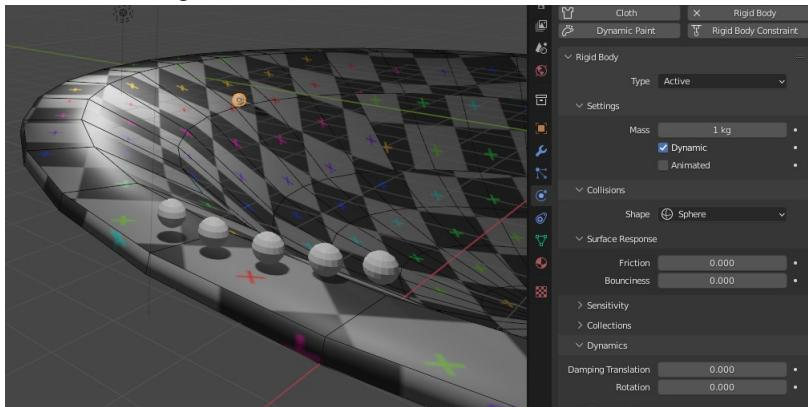

Figure 11-6 Simulating Balls and a Bowl
1. Start off by making a bowl from a sphere by inverting the top half of it. Start a new scene, delete the start cube then add a new sphere object. Scale the sphere 10 times then scale it down in the Z direction by a factor of 0.5. In Edit mode use orthographic and X-Ray view to select the vertices above half way, scale them down slightly then invert the curve by scaling them in the Z direction by a factor of -1.0. Move the selected vertices down and adjust and scale them, then by selecting edge rings at the top expand and flatten the lip so create a bowl as shown in Figure 11-6.
9. To create the bugs, duplicate the ball and change its mass to **0.1** then duplicate the lighter ball four more times. Position these five balls on the flat edge of the bowl so they are just above the surface and separated by about one diameter. The idea is that the bugs will slowly fall into the bowl and the heavier ball will be fired horizontally so it hits them. You can see the locations in Figure 11-6. Make sure that the balls are not intersecting the surface of the bowl otherwise they will experience a strong repulsive force in the first frame of the animation!